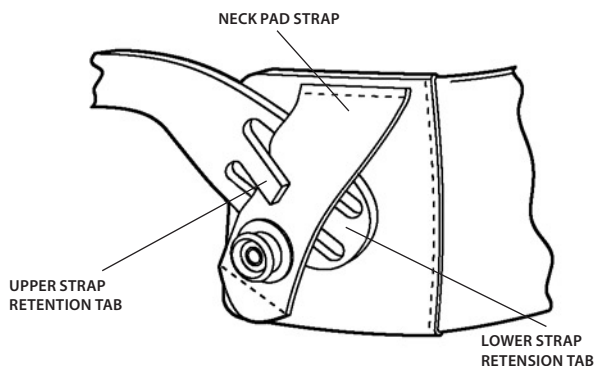

Figure 4-1. Reinstalling the Neck Pad
- (1) Lift the upper headband strap retention tab (see Figure 4-1) allowing the neck pad strap to be inserted underneath.
- (2) Slip the neck pad strap all the way under the upper strap retention tab and then pull the lower part of the neck pad strap under the lower strap retention tab.
- (3) Repeat steps 1 and 2 for the other side of the headband and neckband if necessary.